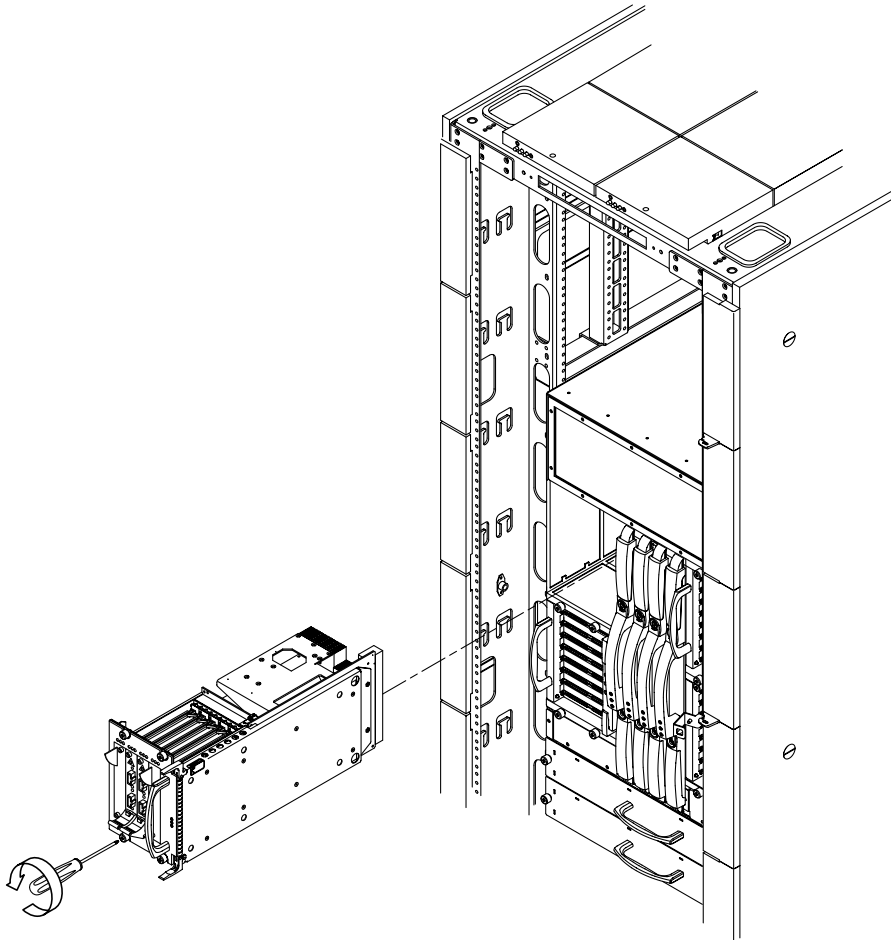

FIGURE 2-4 Replacing a Sun Fire Link Assembly From a Sun Fire 6800 System
- 5. With one hand holding the handle and the other hand beneath the assembly for support, slide the assembly out of the opening (FIGURE 2-4).**
5. **Slide the assembly into the card guides, holding the assembly with one hand on the handle and the other hand underneath the assembly, (FIGURE 2-4).**